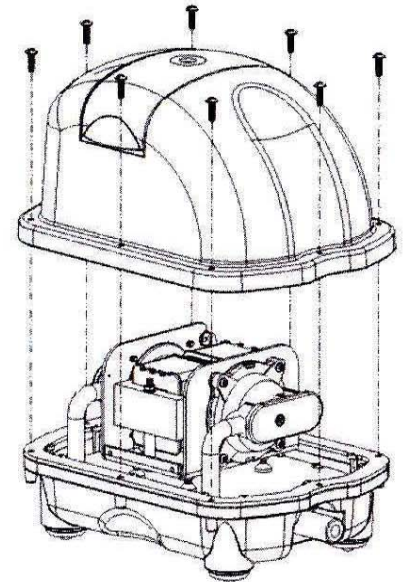

Figure 4
- A. Loosen the eight screws around the plastic upper cover, and take it off. (As shown in figure 4)